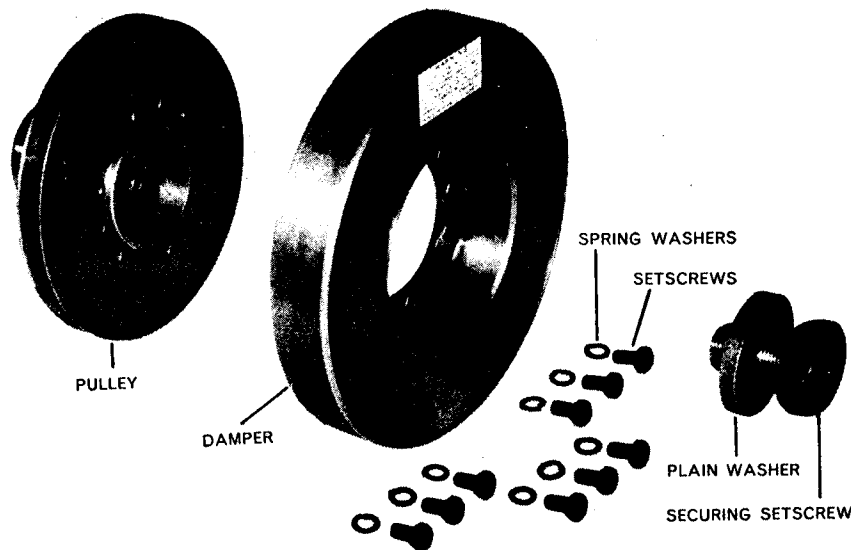

Fig. H.6.
There are two types of crankshaft damper used on the 6.354(M) engine, i.e., the viscous (oil filled) type or the rubber bonded type (see Figs. H.6 and H.7).